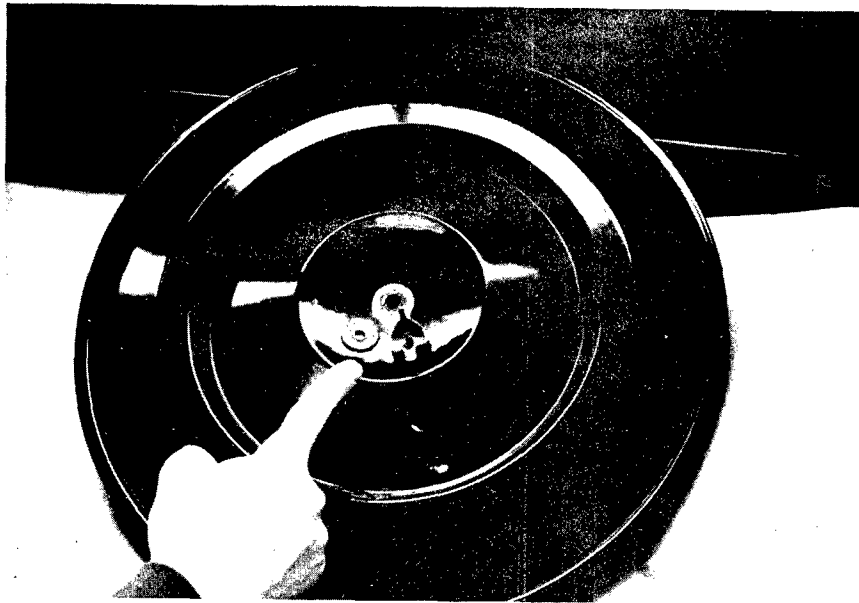

Figure 3
(2) Tighten air cleaner cover wing nut tight. Sealing of the element is essential in preventing dust or ash leaks.
(4) (Maintenance Shop) Install gasket under air cleaner cover wing nut, Fig 3. Cut gasket from 1/32 fiber gasket material (Vellumoid). Do not use a rubber material.